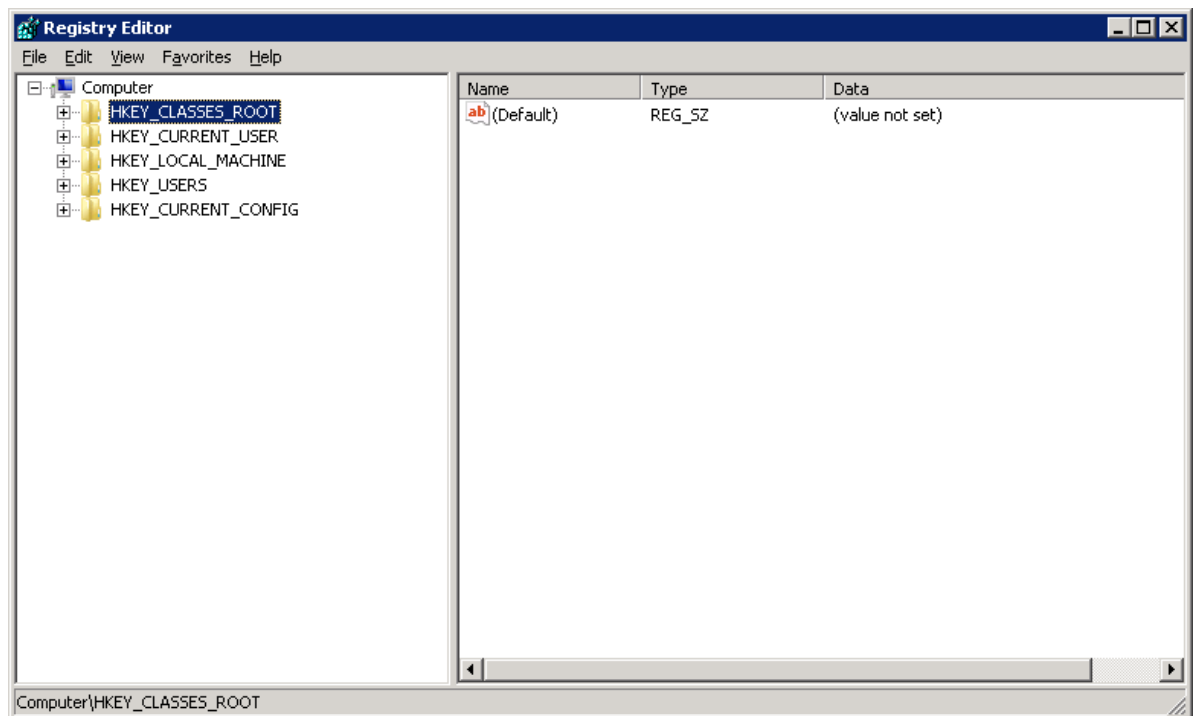

Figure 54 - Registry Editor
2. The **Registry Editor** (Figure 54) is launched.